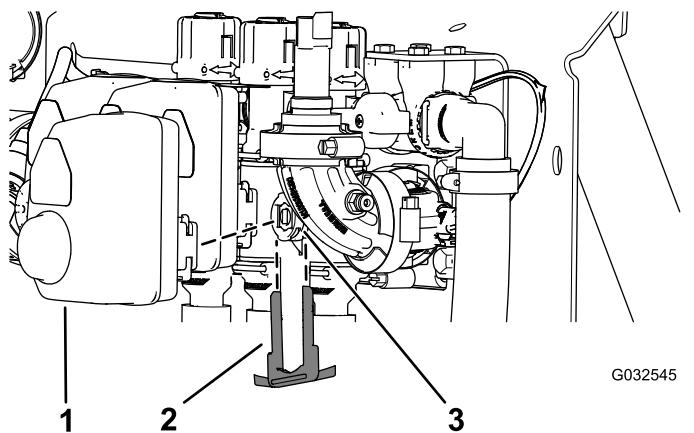

Figure 112
2. Remove the retainer that secures the actuator to the manifold valve for the section valve or agitation valve (Figure 112).